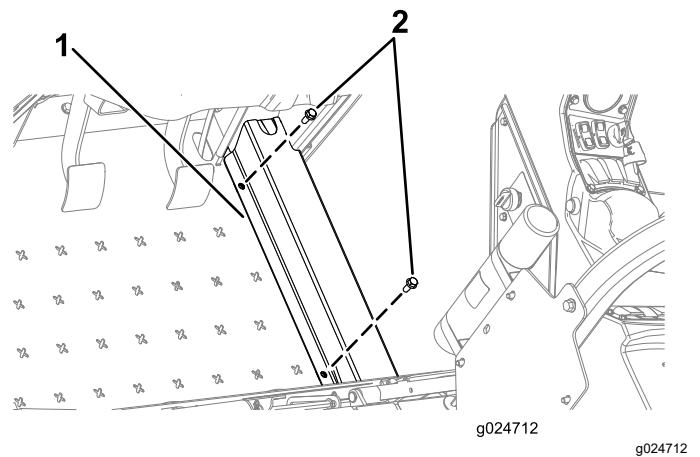
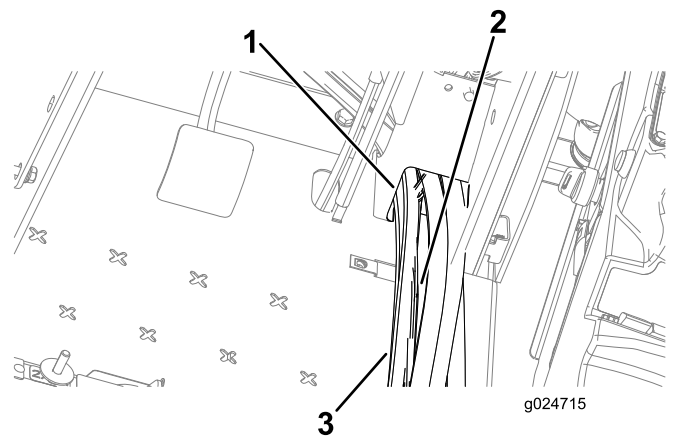

Figure 7
Figure 8
1. Remove the 2 bolts that secure the hose cover to the machine, and remove the cover (Figure 7 and Figure 8).